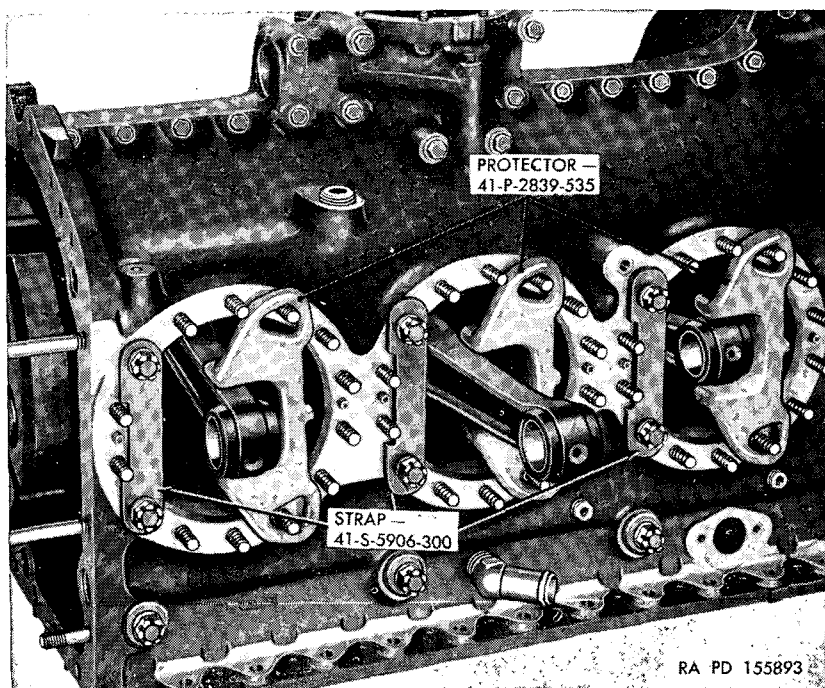

Figure 23. Crankcase cylinder pad protectors.
Note. Before removing the cylinder from the piston, place a connecting rod protector 41-P-2839-535 (fig. 23) on the rod to prevent possible damage to the cylinder mounting pad. Then remove the cylinder.
Note. Pistons for No. 1 and No. 2 cylinders will be at top center together. Therefore, both cylinders can be removed without turning the engine. Also, No. 3 and No. 4 pistons will be together and No. 5 and No. 6 pistons will be together. If the crankshaft binds after some of the cylinders are removed, replace the slotted nuts on the crankcase cross bolts (H), (fig. 65), using crankcase cross bolt straps 41-S-5906-300 (fig. 23) or large washers to protect the machined surfaces of the cylinder mounting pads and tighten the nuts enough to release the crankshaft binding.